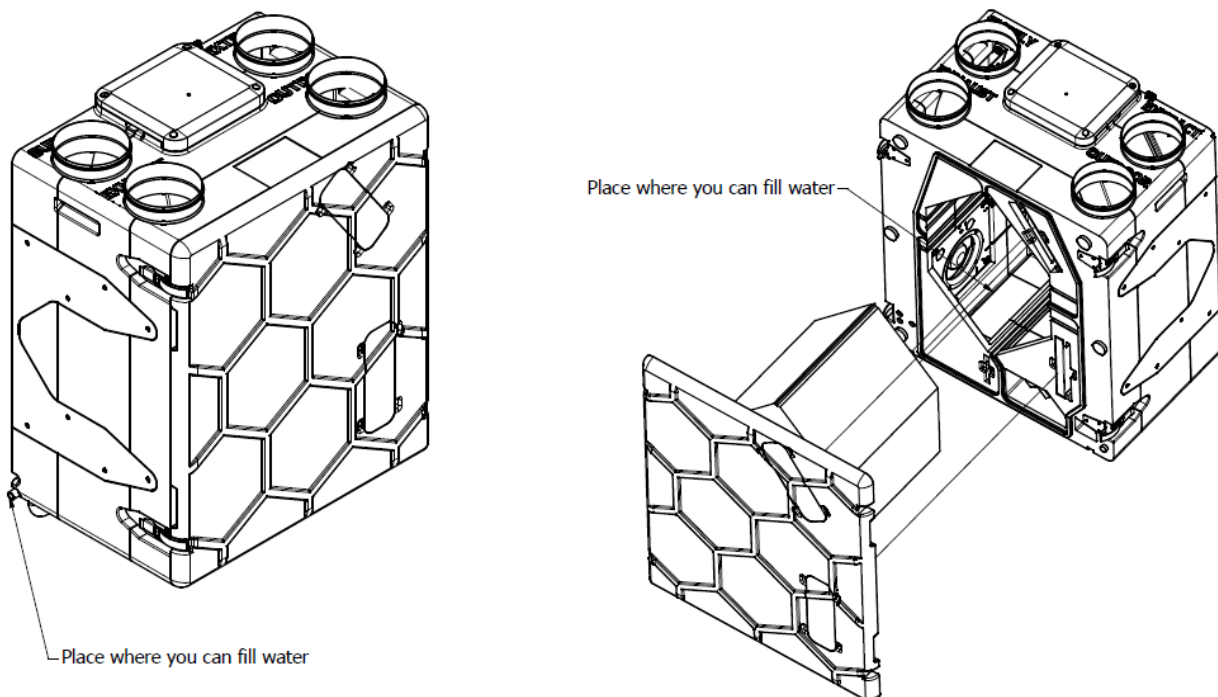

Figure 16 – water filling places
3. Fill siphon with water through two available spots (see figure 16).